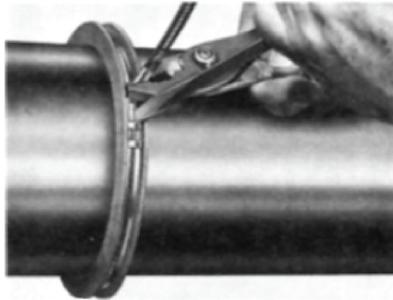

Figure 1 - Seal Retainer Installation
- Thread **dust seal** and **seal retainer** into groove at end of housing base and around shaft. Slide free end of seal retainer through clasp and pull tightly. Hold clasp and tighten as shown in Figure 1. Cut off excess material and break off clasp lip, discarding it so it won't drop in housing bottom. Seal retainer may be disengaged before installation by inserting a straightened paper clip **between the bands** at the clasp and pulling the free end of the retainer out of the clasp.